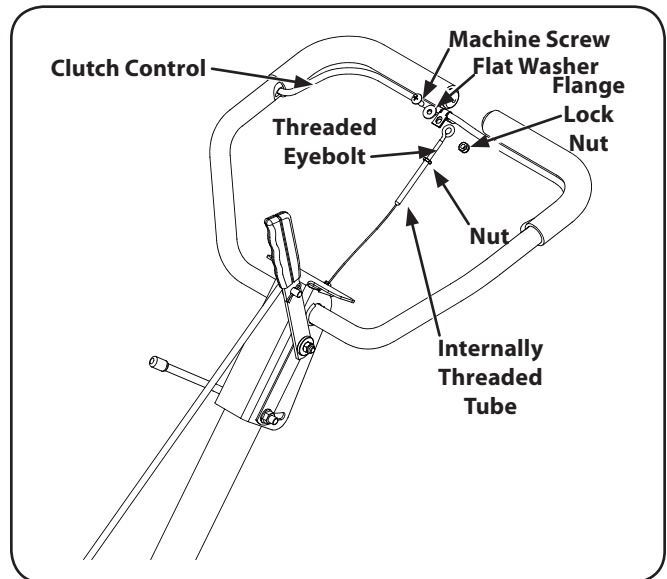

Figure 3-5
4. Remove the machine screw, flange lock nut and washer from the clutch control. See Fig. 3-5.
6. Thread the eyebolt and nut removed earlier into the internally threaded tube at the end of the cable. Thread engagement should be about  $\frac{3}{4}$ ". Tighten the nut against the tube at the end of the cable. See Fig. 3-5.